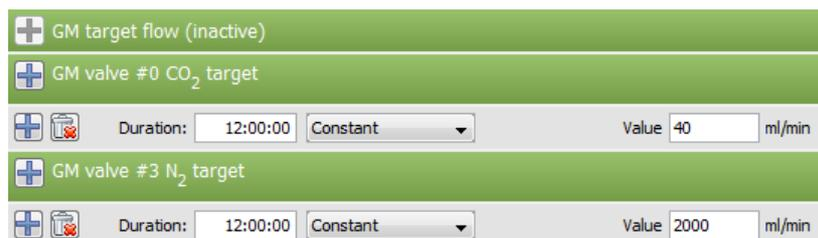

Fig. 35: Gas Mixer protocol in absolute mode
- **Absolute** – this mode sets absolute flow on valves and the absolute target flow is computed as a sum of valves flow (Fig. 35) thus the *GM target flow* accessory is inactive in protocol.